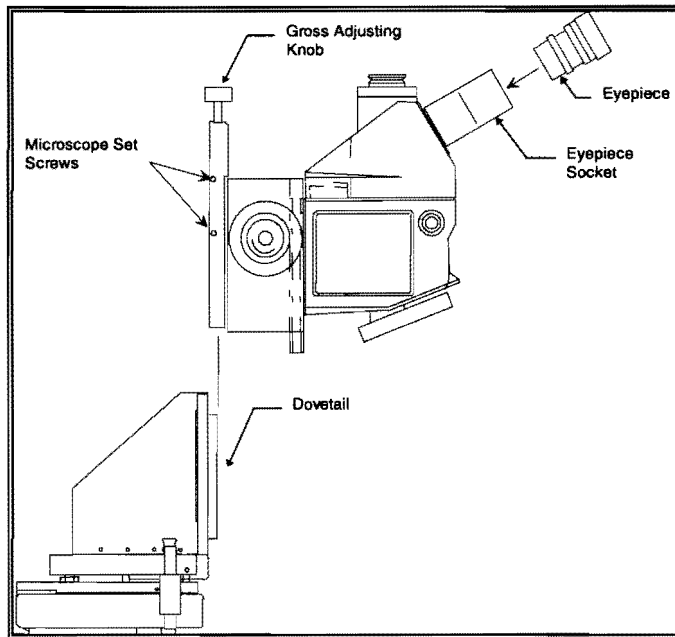

Figure 12
3. Tighten the 2 screws on the left side of the microscope mounting plate (see Figure 12).